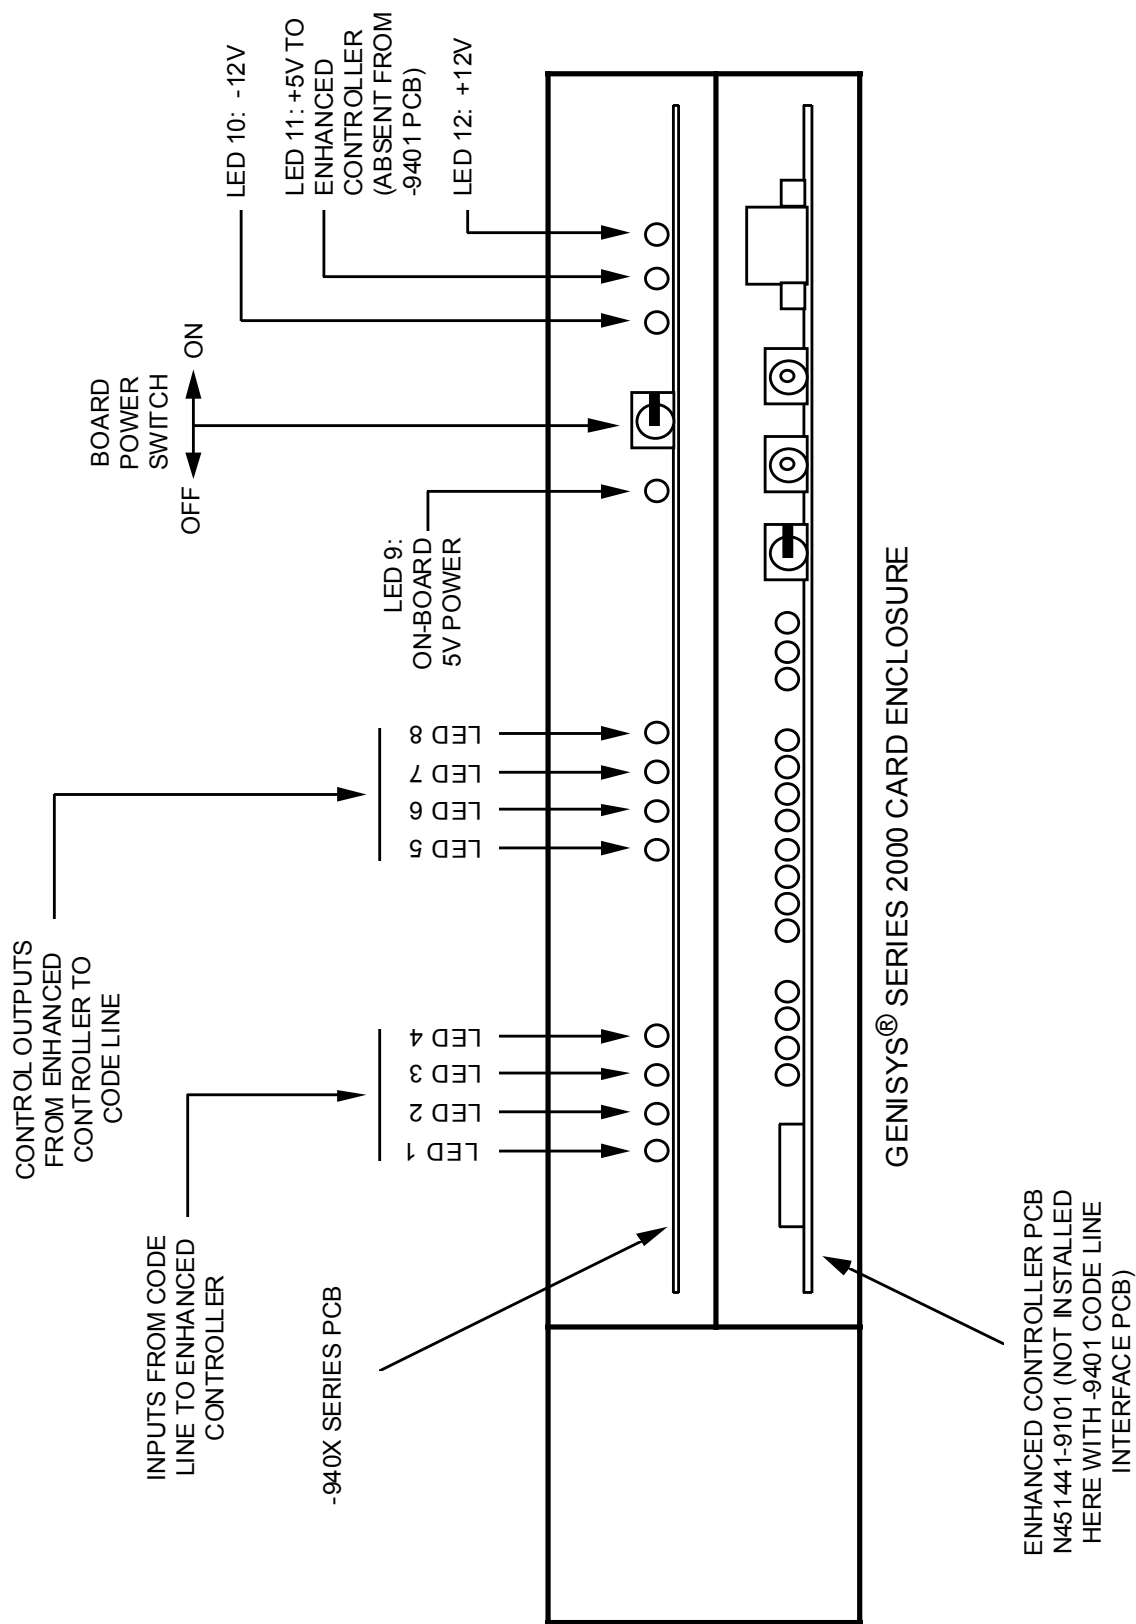

Figure 4-2. -904X Series PCBs - Installation and LED Displays
None of the power converter/regulator chips in the power supply circuitry are field adjustable. An LED is provided for each +5V, +12V and -12V line. Reference Figure 4-2 for LED displays.
4.3.3 Installation In Card Enclosure (Ref. Figure 4-2)
4.3.4 Board Power-Up and LED Displays (see Figure 4-2)